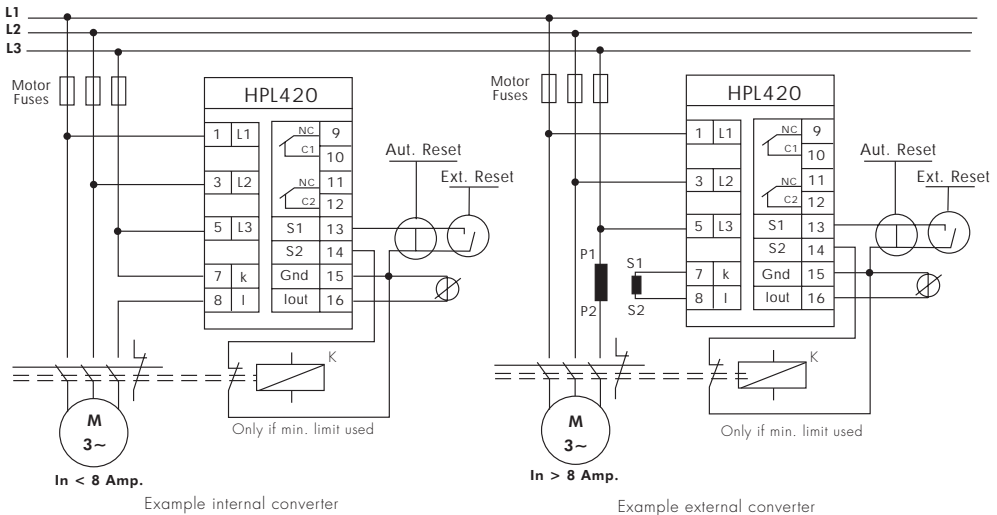

Figure 5.1
The HPL420 should be connected directly in front of the motor starter unit and downstream of the motor fuses and/or isolation breaker as shown in Figure 5.1.
An external current transformer with a secondary rating of 1 or 5 amps must be used if the rated full load motor current is in excess of 8 amps. Figure 5.1 shows correct installation using the internal current transformer (<8A), and using an external current transformer (>8A).
**Power-Down Alarm Blocking:** When the motor is turned off, power drops to zero and a Min. Limit Alarm will be triggered if L2 is active. Figure 5.1 shows an auxiliary normally closed contact on the motor starter being used to short S2 to Gnd when the motor is off. This activates the S2 Inhibit function which inhibits alarm functions and prevents a Min. Limit alarm on power down.